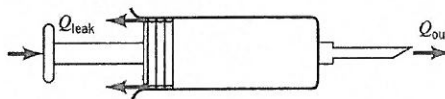

Figure P5.30
5.30 A hypodermic syringe (see Fig. P5.30) is used to apply a vaccine. If the plunger is moved forward at the steady rate of 20 mm/s and if vaccine leaks past the plunger at 0.1 of the volume flowrate out the needle opening, calculate the average velocity of the needle exit flow. The inside diameters of the syringe and the needle are 20 mm and 0.7 mm.